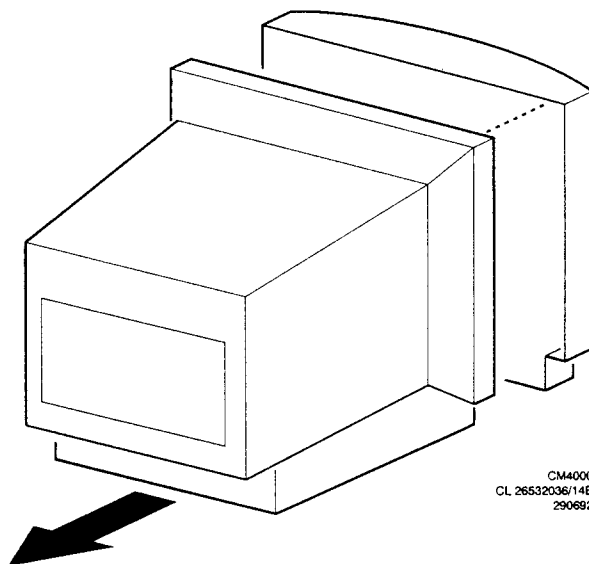

Fig. 4.2
- Remove the rear cover (4 screws), see Fig. 4.2.